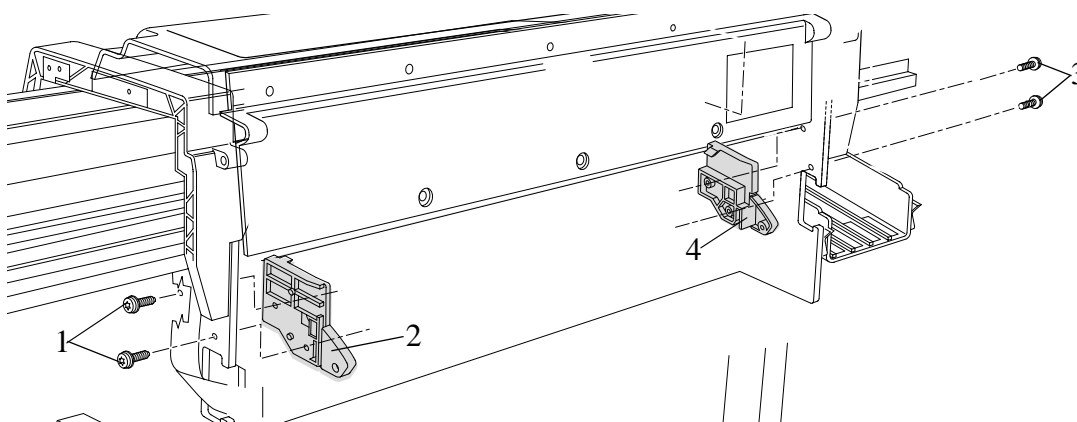

Figure 79: Platen Mounts
Refer to Figure 79 to Figure 82.
2. Remove the two T-15 screws (item 1) securing the left hand rear platen mount (item 2) (refer to Figure 79)
3. Remove the two T-15 screws (item 3) securing the right hand rear platen mount (item 4) (refer to Figure 79).